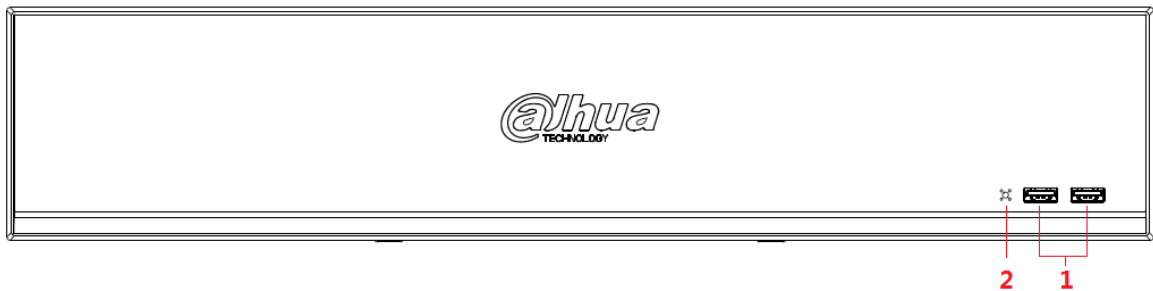

Figure 2-1
- Figure 2-1 takes NVR5864-I and NVR5832-I series as examples.